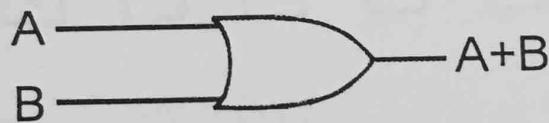
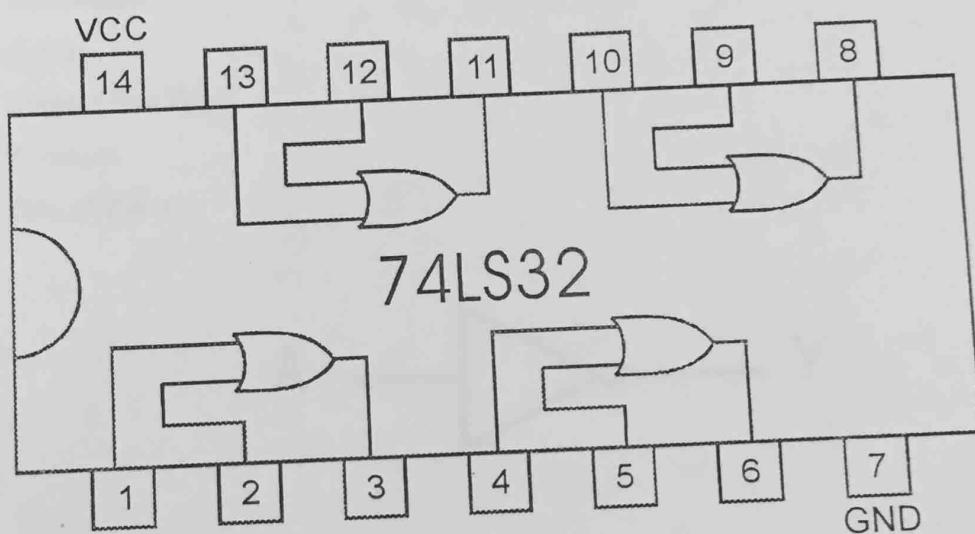

Figure 3.1.
Figure 3.2
4. Wire the circuit according to the diagram in fig.3.1 by consulting OR gate IC's data sheet in fig 3.2.